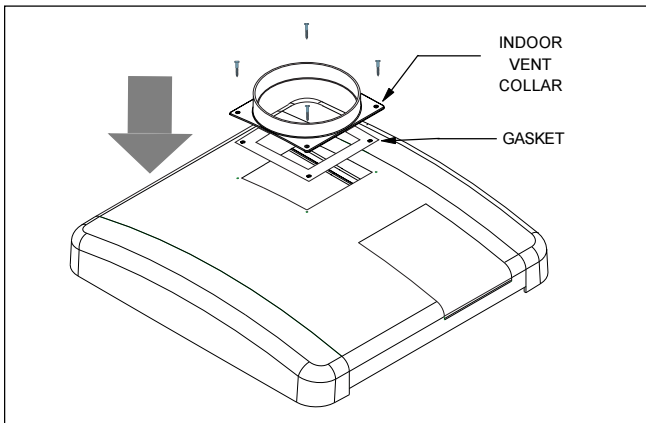

Figure 5. Vent Collar Assembly for Indoor and Outdoor Shelter Installation
2. Replace the grill with the vent collar. Place the vent collar and gasket over the hole and fasten it in place with the 4 screws provided. Be sure that all components are properly aligned (See Figure 5).